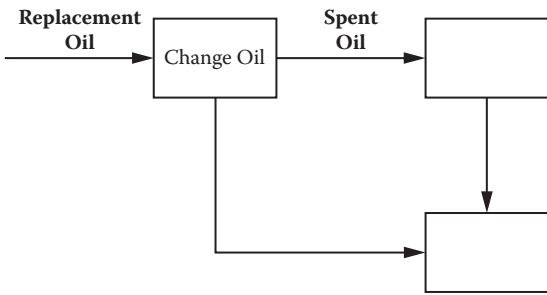

Figure 5.6 General left-to-right “conversion” sequence.
- 3. Keep general left-to-right sequence of converting inputs into outputs (Figure 5.6).